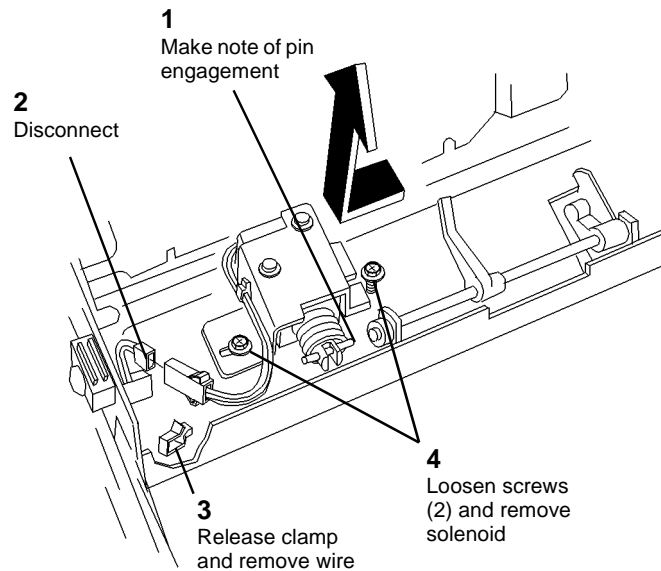

Figure 1 Removing Set Gate Solenoid Assembly
5. Remove Set Gate Solenoid Assembly (Figure 1).